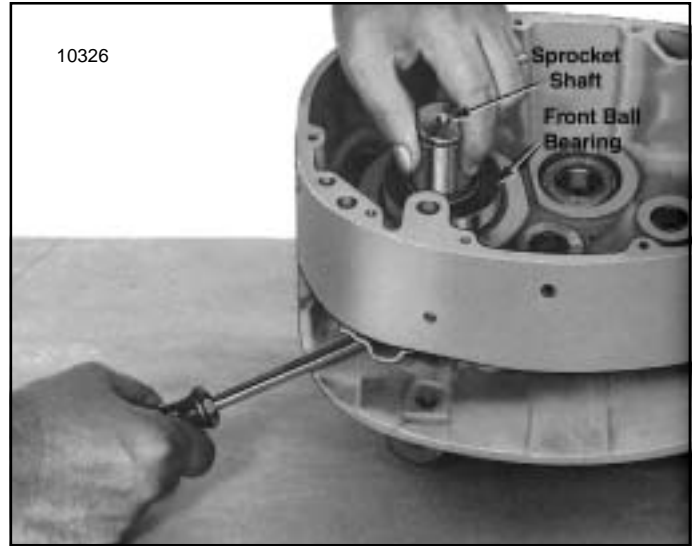
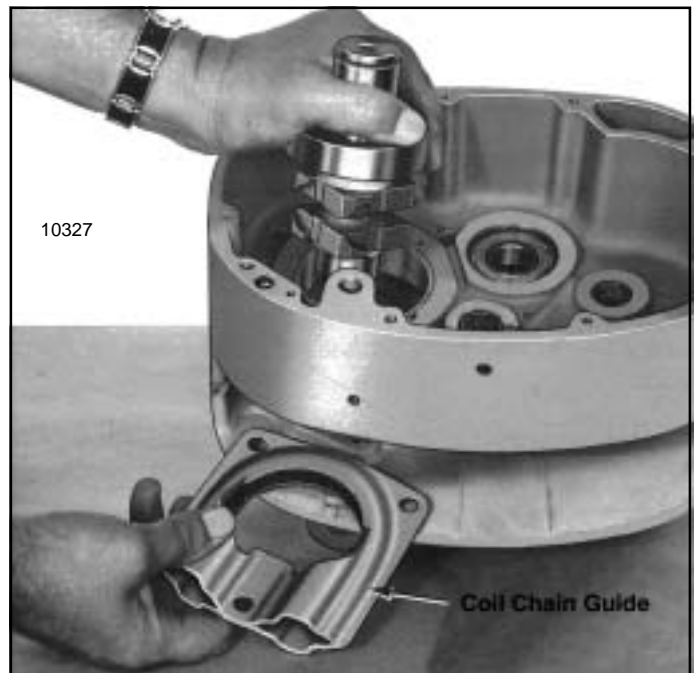

Figure 7-14. Removing Sprocket Shaft and Front Bearing
Figure 7-15. Chain Guide Being Removed from Frame as Sprocket Shaft is Lifted Out (Link Chain Models)
(4) Remove sprocket shaft and front ball bearings assembly from frame by lifting up on end of shaft while prying up on sprocket as illustrated in figure 7-14. The chain guide will need to be repositioned in frame as sprocket shaft is raised to allow the sprocket to pass thru hole of guide (fig. 7-15). On roller chain model hoists, the chain stripper must be partly removed from guide by prying it out using screw driver or other suitable tool. See figures 7-16 and 7-17.